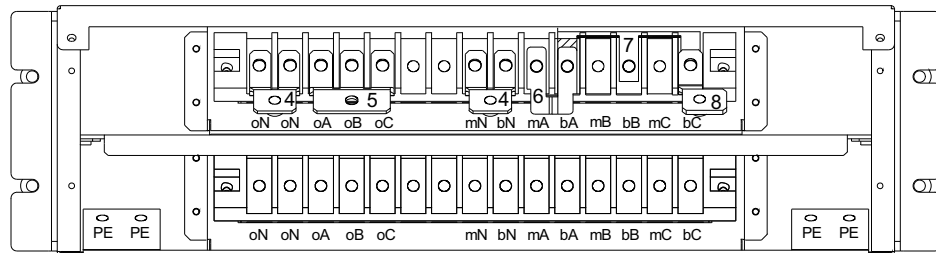

Figure 2-9 Shorted copper bar connection for the single POD user terminal block
1. Short the terminal bA, bB and bC of the single POD user terminal block using the shorted copper bar 7, short the terminal oA, oB and oC using the shorted copper bar 5, and short mA and bA terminals using the shorted copper bar 6 and then short mN and bN terminals, two oN terminals respectively using two shorted copper bars 4, as shown in Figure 2-9.
2. Connect the shorted copper bar 8 to one end of the shorted copper bar 7 (see Figure 2-9), and connect the live line (input phase A) to the shorted copper bar 8.